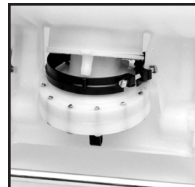

Figure 2.
2. With unit laying on its back with pump assembly facing you, remove the pump rod (C). Loosen hose clamp and remove pressure hose (D). Next, loosen the clamp at the base of the sprayer (E). Figure 2.